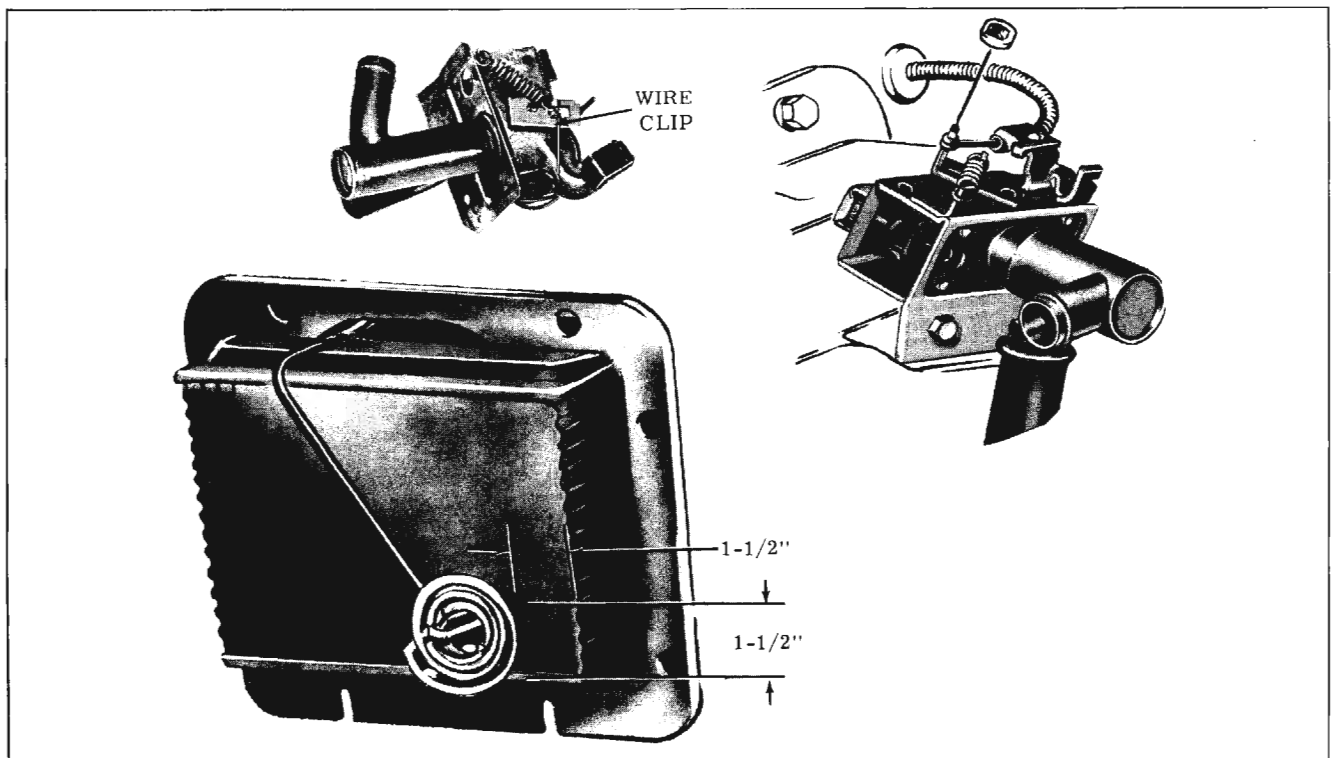

Fig. 15-110 Water Control Valve
1. Reseal the valve body and core flanges. Position core to valve body assembly and reposition temperature sensing tube coil through slot in the core flange. Position two core to valve body assembly retaining straps and retain with four screws. Position temperature sensing tube coil on core and retain with nylon retainer as shown in Fig. 15-110.
NOTE: Replacement water valves are packaged with a wire clip in place on the valve crank which holds the valve fully closed. (Fig. 15-110) This clip should not be removed until the temperature control cable has been adjusted after installation is completed.
3. Guide temperature sensing tube coil through the access slot in the flange of the heater core. Retain coil to heater core as shown in Fig. 15-110.